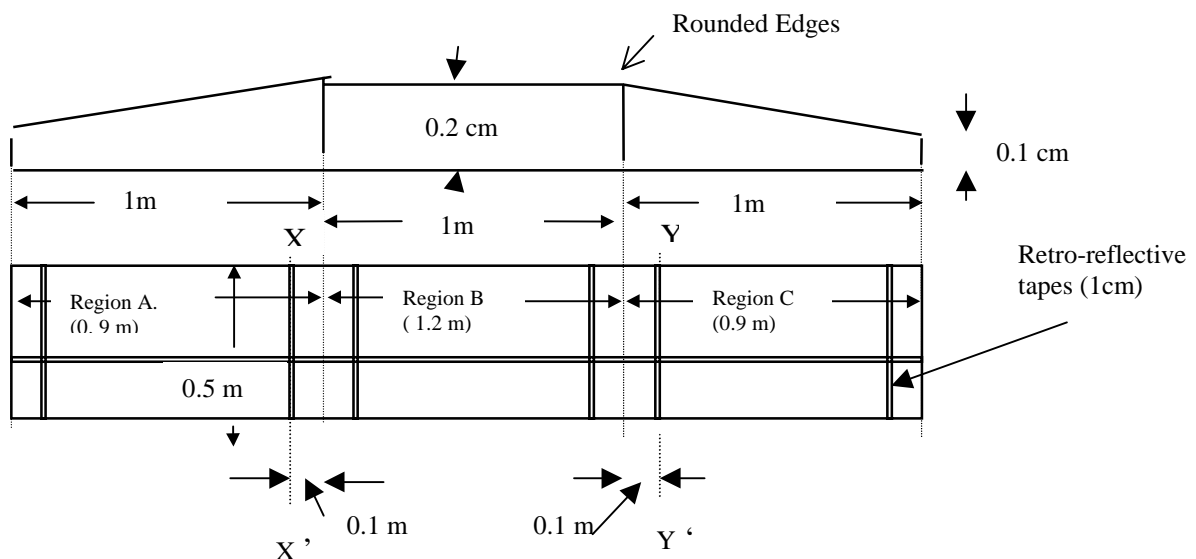

Fig.4. Pole Balancing Robot Table
4.1 The competition table is shown in Fig.4. One common competition table will be used by all competitors. The gradient will be approximately 5.7 degrees. The edges between the inclined surfaces and the horizontal surface will be rounded off and there will be no joints at those edges. A neoprene rubber mat of 3mm thickness will be used on the top of the table to improve the grip of the wheels.
6.1 The robotic vehicle would operate on the top of the table provided. Please see Fig. 4. The table-top will have a slight gradient at the start (region A) and the end (region B) zones as shown in Fig. 4.
6.2 The vehicle will be placed within the region A (see Fig. 4). The operator may move the pole (the inverted pendulum) to an upright position and release it upon receiving the signal from the judges. The vehicle must balance the pole in the upright position for a minimum of 20 seconds without the vertical pole crossing the line X-X'.